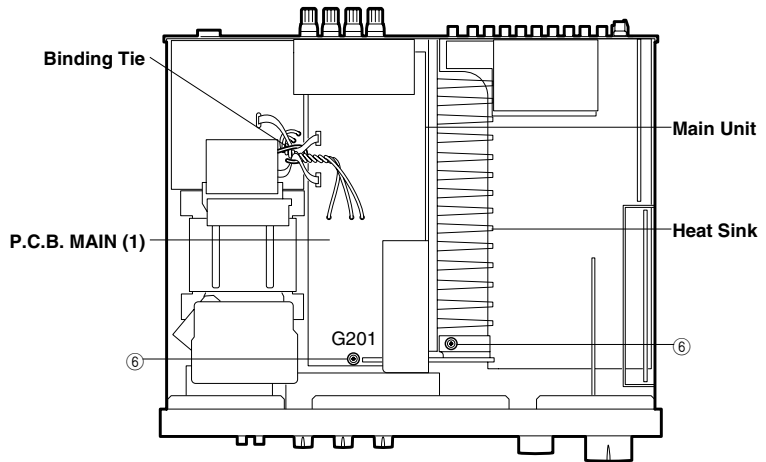

Fig.3
- Remove the Binding Tie fixing P.C.B. MAIN (1)'s wiring in Fig. 3.
- Remove 2 screws (6) fixing the Main Unit in Fig. 3.